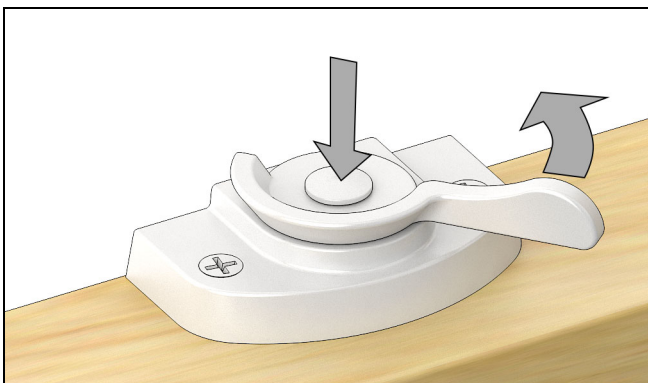

Figure 6
3. Rotate handle to 135° to unlock, then push center button to allow handle to rotate to 180° for tilting. See Figure 6.